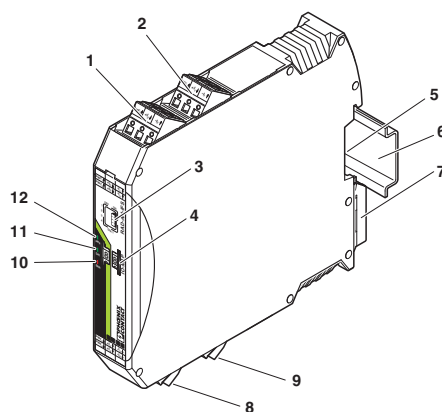

Figure 10-1 RAD-AI4-IFS structure
A supply voltage of 12 V DC, minimum, is available at the PWR₁ connection terminal block for passive sensors (see Figure 10-1, item 1).